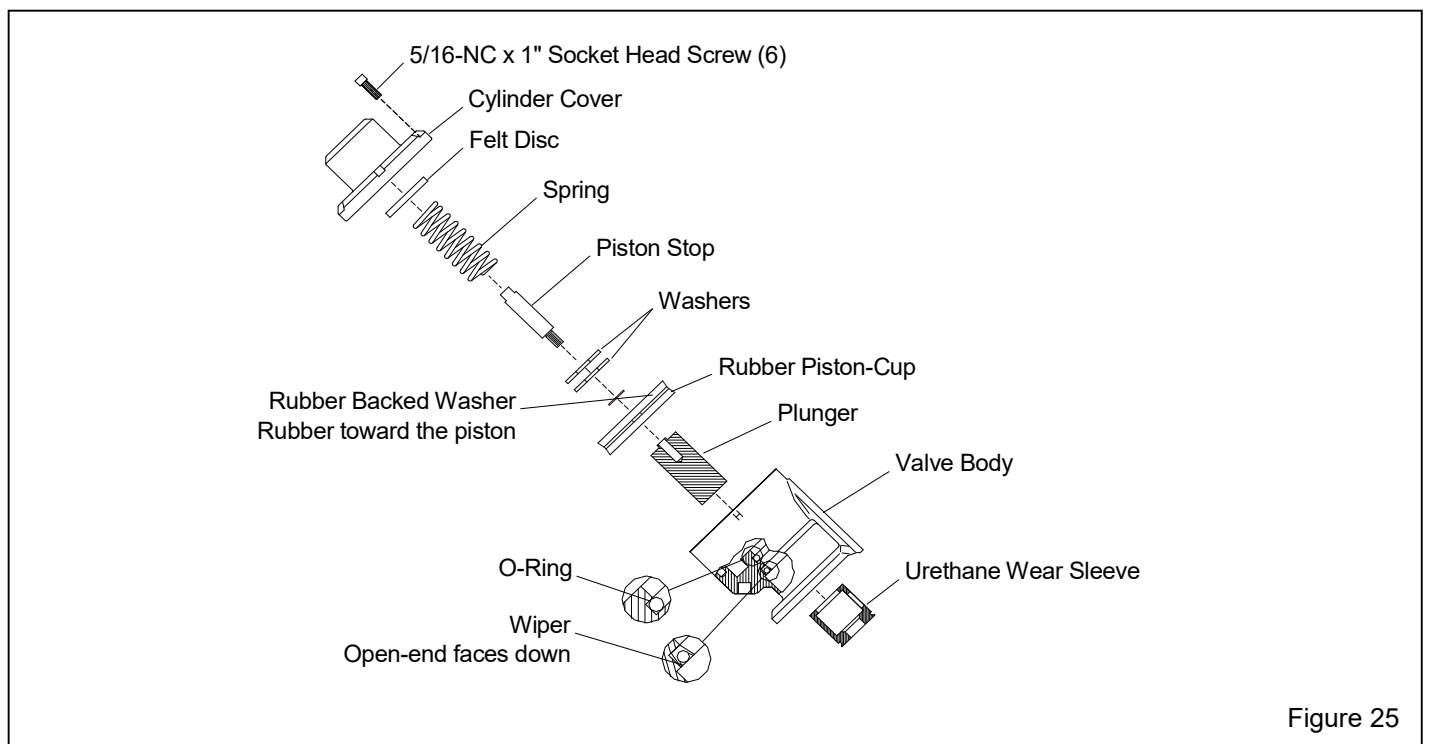

Figure 25
8.12.2.5 Refer to Figure 25 and unscrew the six socket head screws, and remove the cylinder cover and spring. Spring compression is relieved when the cover is approximately 9/16" from the actuator valve body.
8.12.2.13 If the plunger and piston were separated as noted in Section 8.12.2.9, apply removable thread sealant to the threads on the piston stop and reassemble the piston assembly using a new O-ring from the service kit. NOTE: Make sure the two flat washers and rubber-backed washer are installed, as shown in Figure 25.
8.12.2.14 Replace the wiper and O-ring in the actuator body; the open side of the wiper must face toward the bottom of the body, as shown in Figure 25.
8.12.2.20 Place the two flat washers and spring over the piston stop, as shown in Figure 25.